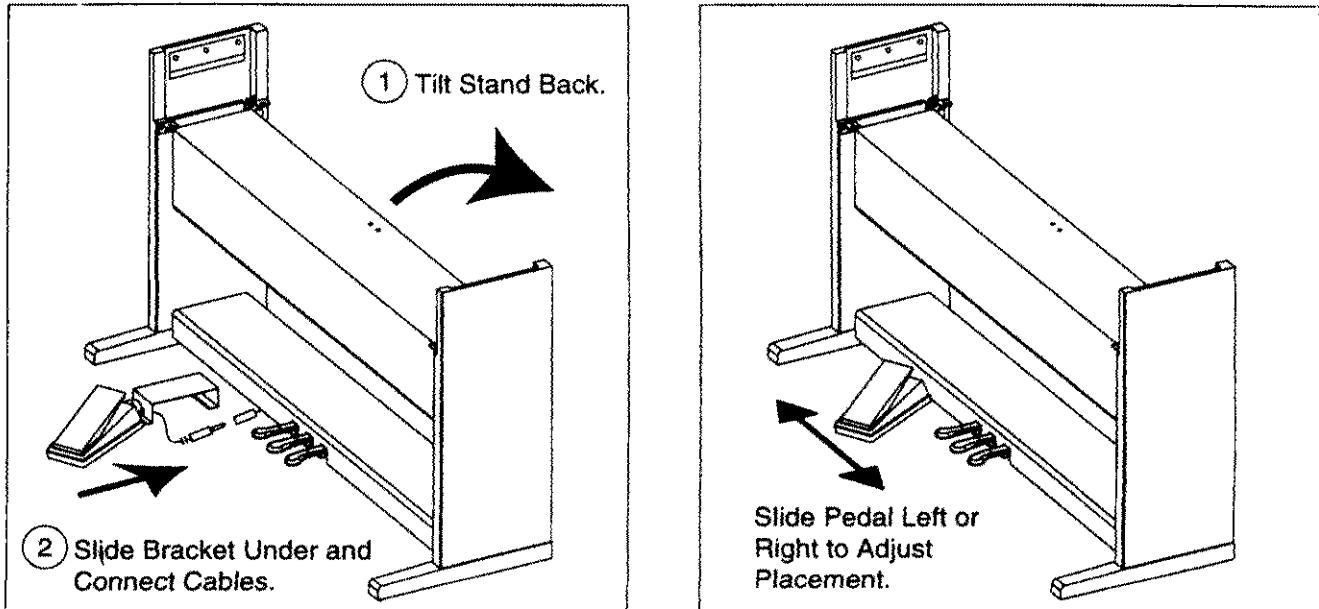

Figure 5. Continuous Control Pedal Installation.
16. See Figure 5. Tilt the Stand back about 4 inches, and have the person helping you place the Bracket below the Piano. Then insert the end of the Continuous Control Pedal's cable into the connector under the Pedal Cross Member.